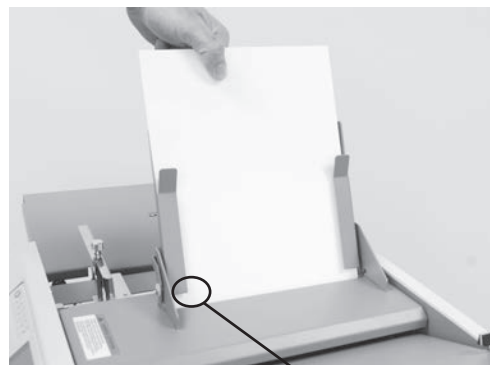

Fig. 47b
2. Slide the pre-collated paper set into the multi-sheet feeder. When feeding stapled sets the documents should be placed with the staple on the operator's side and leading (Fig 47b).